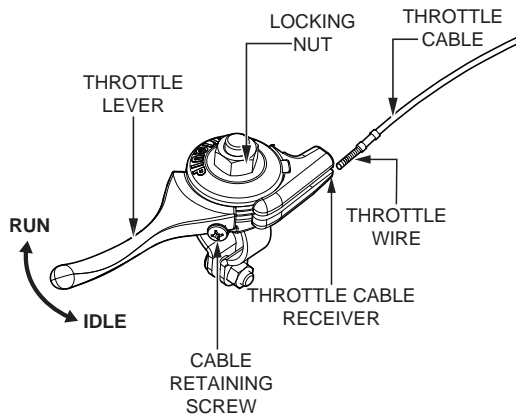

Figure 7. Adjusting Cable Tension
3. Place the throttle lever (Figure 7) in the **RUN** position.
7. On the throttle lever, slightly loosen the locking nut and cable retaining screw (Figure 7).
8. Make sure the throttle cable is seated in the throttle cable receiver (Figure 7).
9. Route the throttle wire approximately 1/2 inch past the cable retaining screw (Figure 7). Tighten the cable retaining screw to secure the throttle wire.
10. Adjust cable tension as needed by loosening or tightening the locking nut and cable retaining screw on the throttle lever (Figure 7).